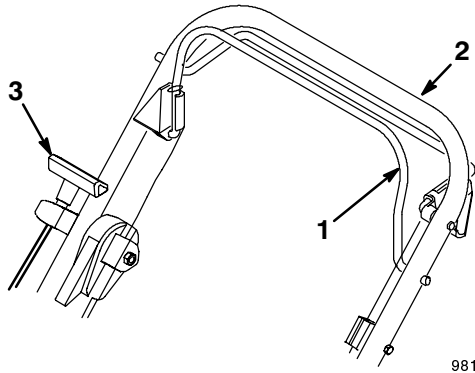

Figure 10
The starter handle and the blade control bail are on the upper handle as shown in Figure 10.
3. Hold the blade control bail against the upper handle (Fig. 10).
4. Pull the starter handle lightly until you feel resistance, then pull it sharply (Fig. 10). Allow the rope to return to the handle slowly.